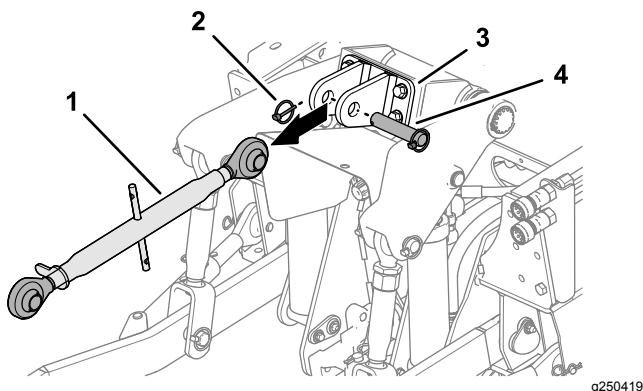

Figure 10
3. If installed, remove the lynch pin, clevis pin, and upper 3-point link from the upper-link bracket (Figure 10).